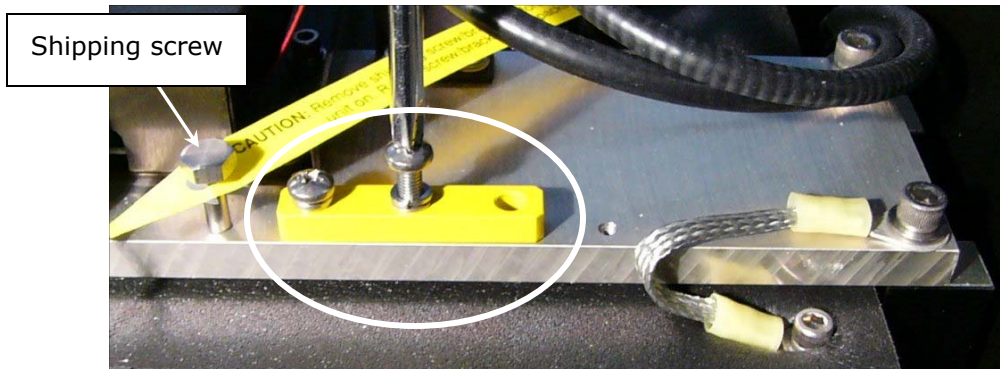

Figure 7: Carrier shipping screw and optic arm shipping block stored on the base plate.
- Use the supplied wrench to remove the microplate carrier shipping screw. You will store the screw on the base plate as shown in **Figure 7**. Pull the flexible carrier shipping tube off of the carrier. Store the tube in the plastic storage pocket. Use the supplied Velcro strips to attach the pocket to the back of the reader for storage.